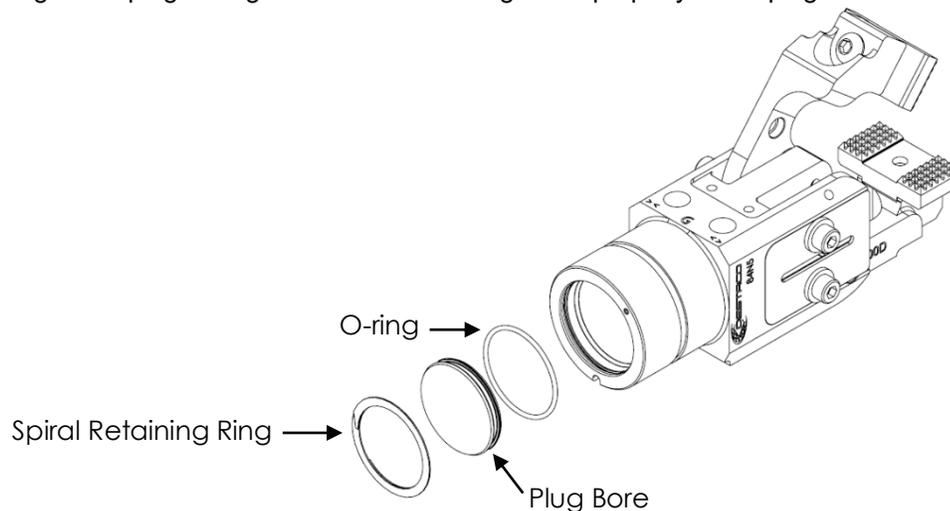

Fig.35
3. Remove the plug bore from the gripper body; carefully remove the O-ring without damaging the plug bore (see Fig.35).